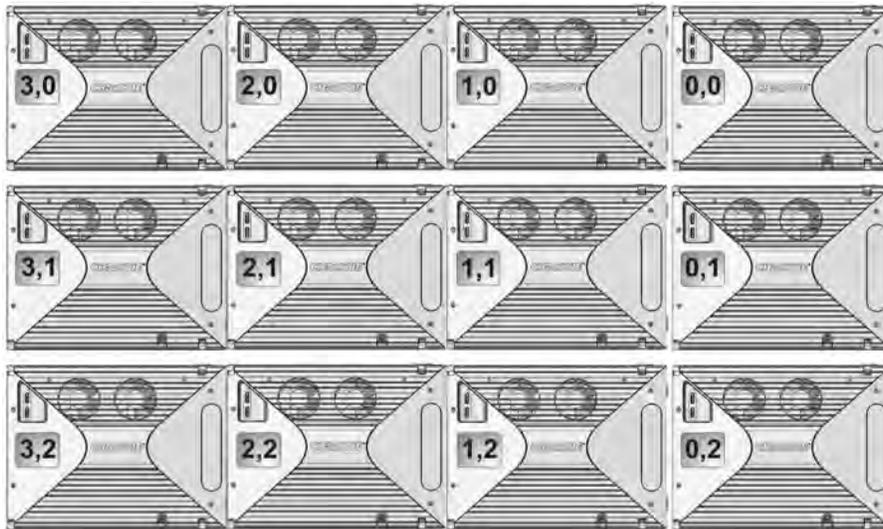

Figure 3-47 Tile Numbering Sequence (Back View)
- **XY:** Displays the XY coordinates of the tile in the array. Arrays are counted in the XY-axis and always starts from the top-left corner of the array. See **Figure 3-47**